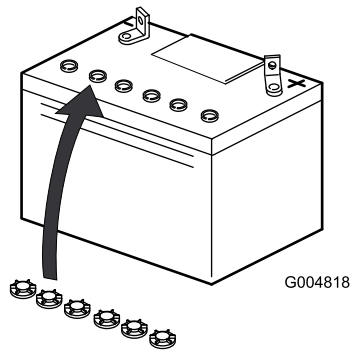

Figure 5
6. Install battery filler caps (Figure 5).